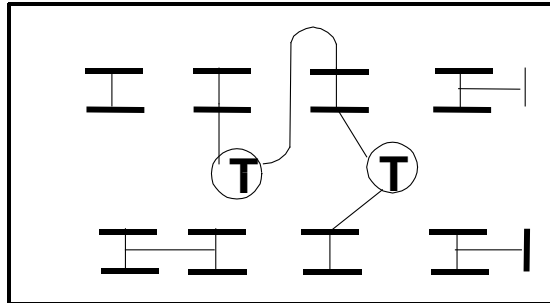

Fig. 6 Wired for 240VAC Conversion
- Step 1: Wire Power Transformer Terminal block as illustrated in Figure 6.